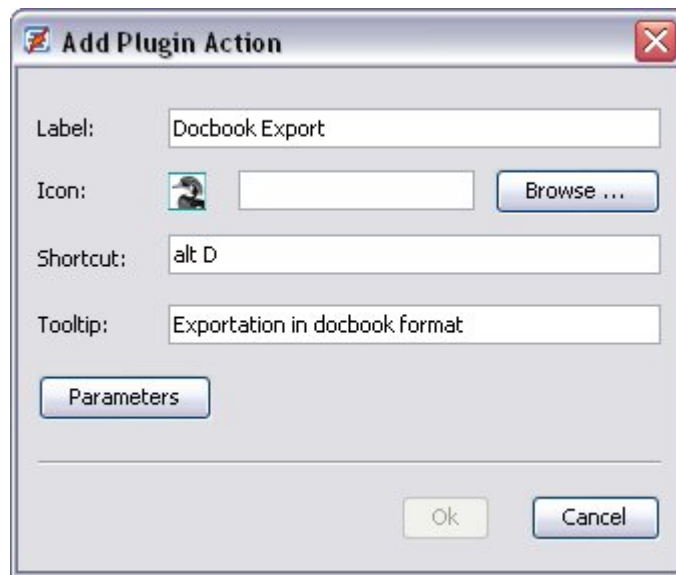

Figure 86 : Add a plugin action
3. Click on the **Add** button; the following window then appears (Figure 86):